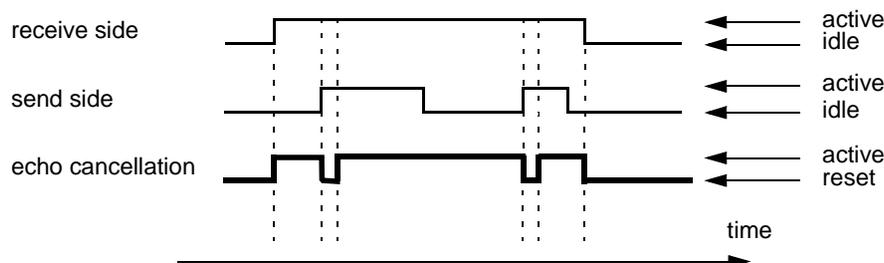

Figure 2-5 AND signaling mode timing
- 2.20 AND signaling works on CAS bits only, and does not use in-band idle codes. Figure 2-5 illustrates AND signaling mode timing.